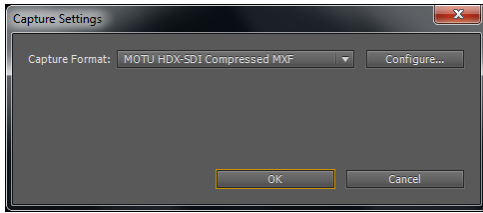
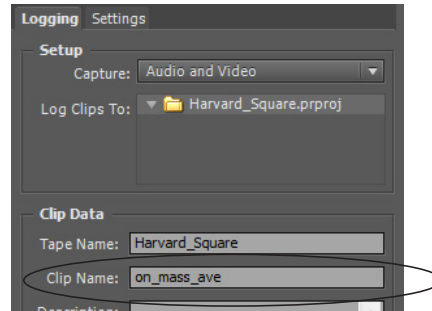
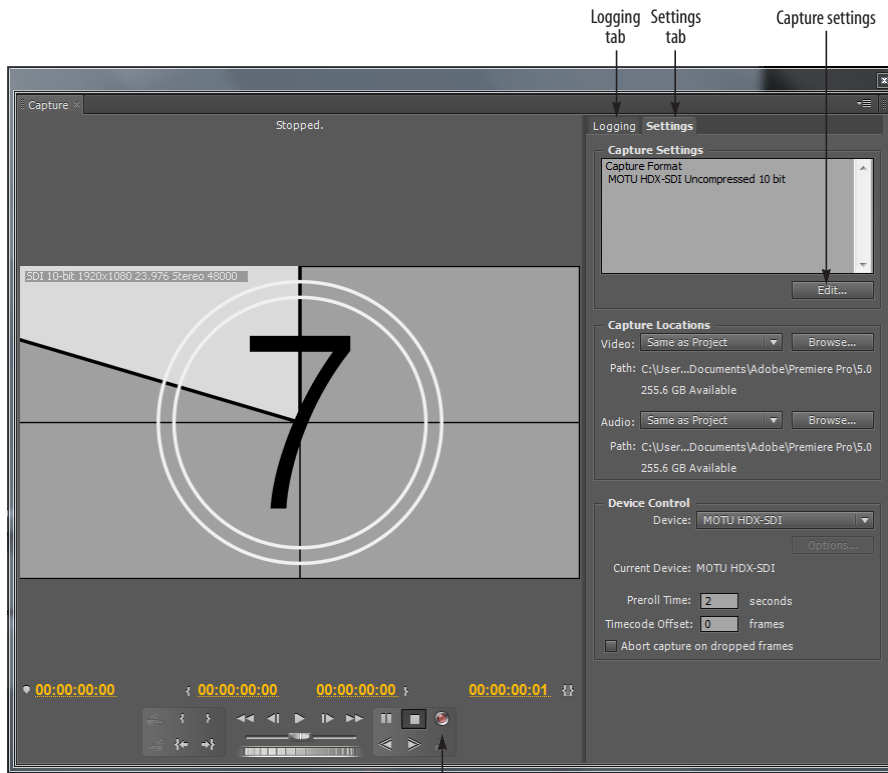

Figure 7-7: Capture settings.
Figure 7-8: Be sure to name the clip before you capture.
Figure 7-6: Capture window.
- 1 In Premiere Pro, choose *Capture* from the File menu to open the Capture window (Figure 7-6).
- 2 Click the Settings tab and click the Edit button (Figure 7-6) to access the Capture settings (Figure 7-7).
5 Click the *Logging* tab (Figure 7-6) and name the clip (Figure 7-8).
6 Click the Record button (Figure 7-6) to start capturing.
To access the capture settings, choose *File menu > Capture* to open the Capture window, click the Settings tab (Figure 7-6 on page 49), then click Configure (Figure 7-7 on page 49). Each setting is explained briefly below.